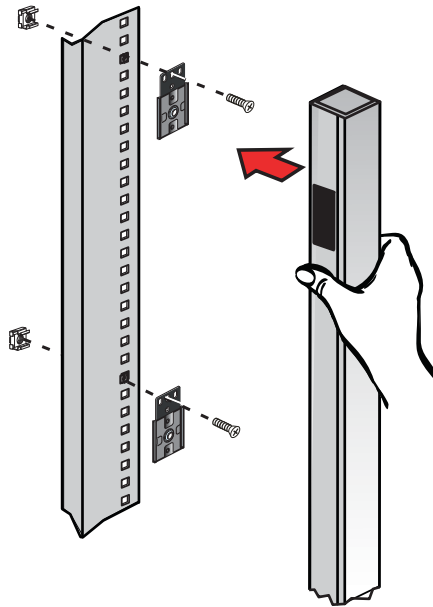

Figure 18. Attaching the Clip Feet and Cage Nuts
3. **ePDU on the rail.** Position and lock two cage nuts far enough apart to stabilize the top and bottom of the ePDU when mounted on the rail. Insert the cage nuts with a flat-blade screwdriver (see Figure 18).